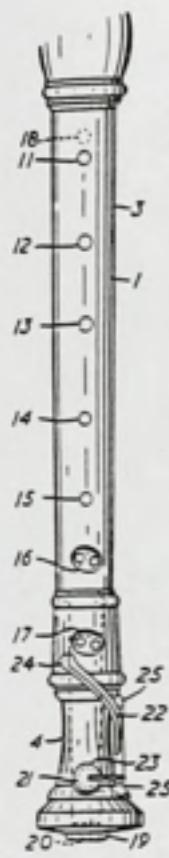

Fig 1
**Bell Key** - invented by Carl F Dolmetsch. The original patent, number GB 852165 based on a 1958 application [see fig 1], shows hole 8 plugged, it appearing instead from the side of the instrument very near the south end of the foot. This new hole 8 was covered by an open key, operated by the little finger of the right hand. The patent specification explains that to provide a key over hole 8 in its normal position poses tricky problems of construction. But these problems were overcome, for the final version appeared with a graceful key covering hole 8 in its usual position - at the very south end of the recorder. The Bell Key is operated by the little finger of the right hand which can carry out its usual function and close hole 7 when required, or operate the Bell Key when necessary and even do both at the same time if demanded. Many instruments have problems with a few of the notes they are expected to play - notes sounding muffled, notes lacking resonance and stability, and even notes difficult to produce. The recorder has its fair share. On the treble recorder for example are the difficult to obtain top F sharp, and an in tune B flat above that. The recorder also happens to be an instrument whose tone colour cannot be varied enormously. The Bell Key overcome both of these problems. Many first octave left hand notes and some 'faked notes' in the upper register can be given quite different tone colours when the Bell Key is closed. More importantly the tongued top F sharp becomes a safe note to